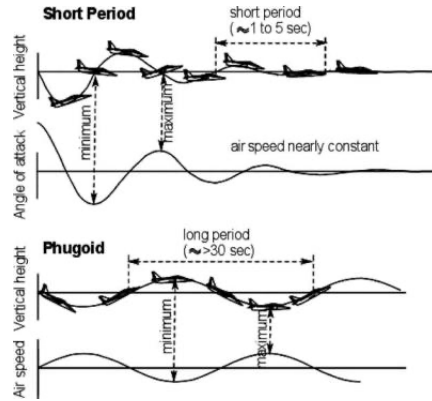

Figure 9: Phugoid Mode (Oscillating "Up" and "Down" Motion)
- Stability derivatives give essential information for an aircraft. They describe whether a mode of motion for an aircraft is stable, meaning the aircraft will naturally correct its motion, or if it is unstable, meaning the aircraft will lose control. An example of a mode of motion is the naturally occurring oscillation that moves the aircraft in the "up" and "down" direction (Figure 9).